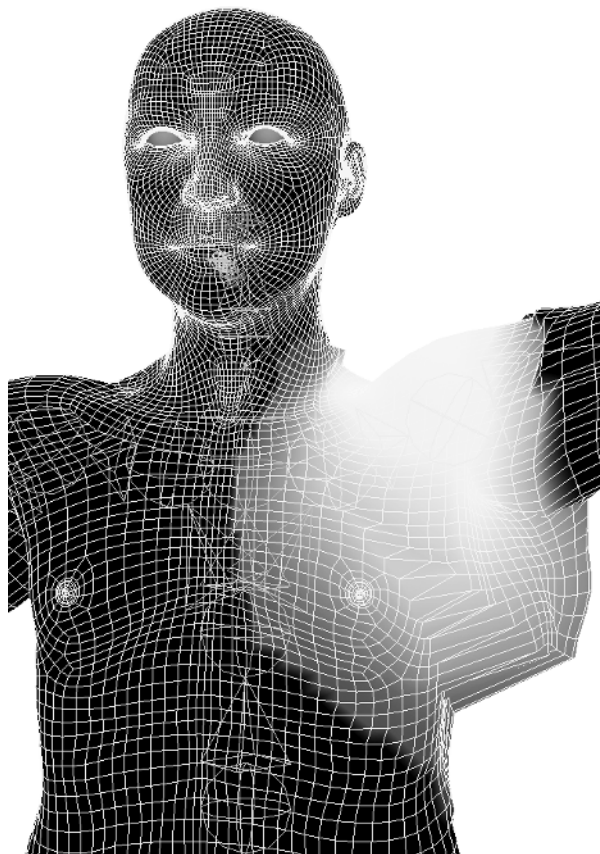

Figure 1.12
10. Do clavicleLft_JNT next. Remove all the weights except a large area around the upper shoulder. Use your own body as reference. Place your hand over your heart, and then raise your shoulder. Feel the skin move? Slide your hand down and around the bottom of your ribcage. Keep raising your shoulder to feel how far the effects of the clavicle go. Figure 1.12 shows the remaining weight values.